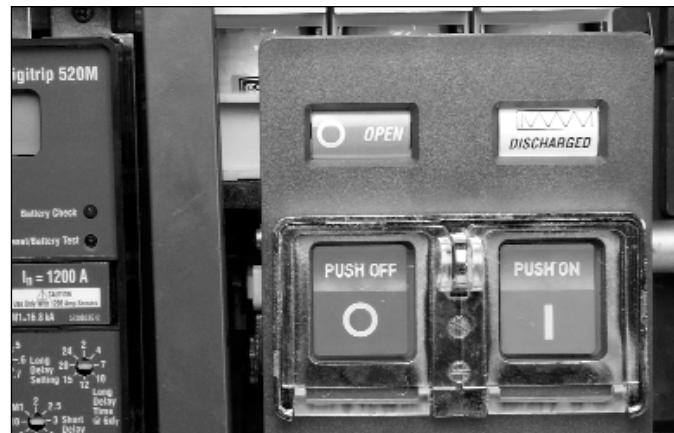

Figure 3-59 ON-OFF Pushbutton Lockable Cover Plate
**Pushbutton Cover** - Padlockable covers are available to limit access to the "ON" and "OFF" pushbuttons (Figure 3-59). They can be installed with either or both pushbutton covers in place.